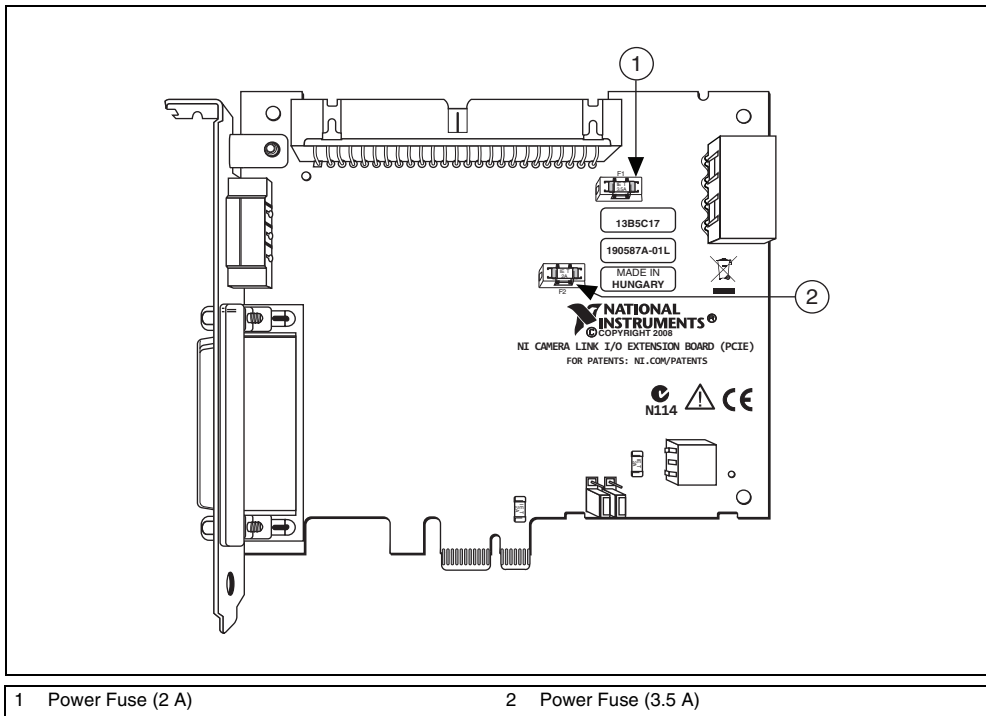

Figure 16. Locations of Replaceable Fuses
The NI Camera Link I/O Extension Board (PCIe) has two replaceable fuses. Refer to Figure 16 for the fuse locations. The fuses protect a camera attached to the 3-pin screw terminal connector from overcurrent through the camera power ATX connector on the I/O Extension Board.
5. Replace the blown fuse while referring to Figure 16 for the fuse location. You can order additional fuses from Littelfuse at www.littelfuse.com or from electronics distributors.